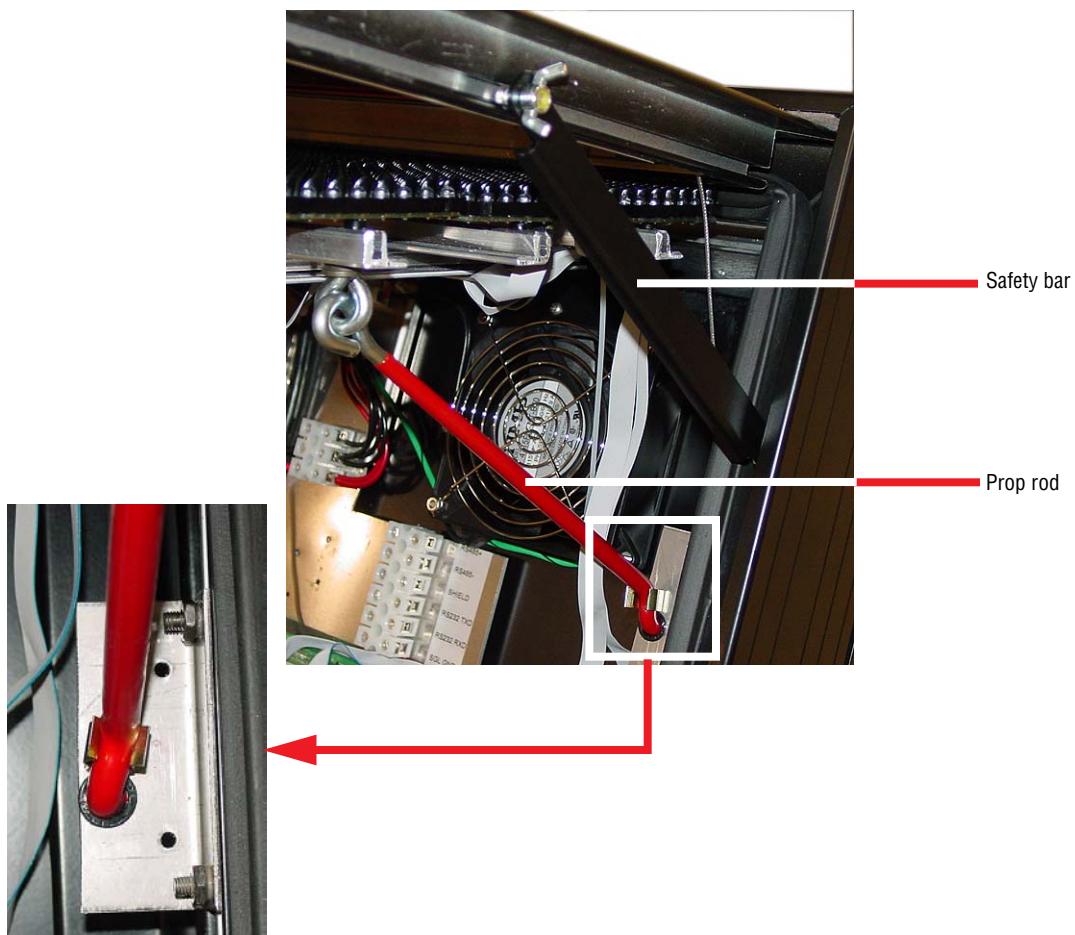

Figure 19: Prop rod and safety bar
4. Swing each safety bar up and attach it to the bolt *inside* the sign using the supplied wing nut. See Figure 19, "Prop rod and safety bar," on page 49.